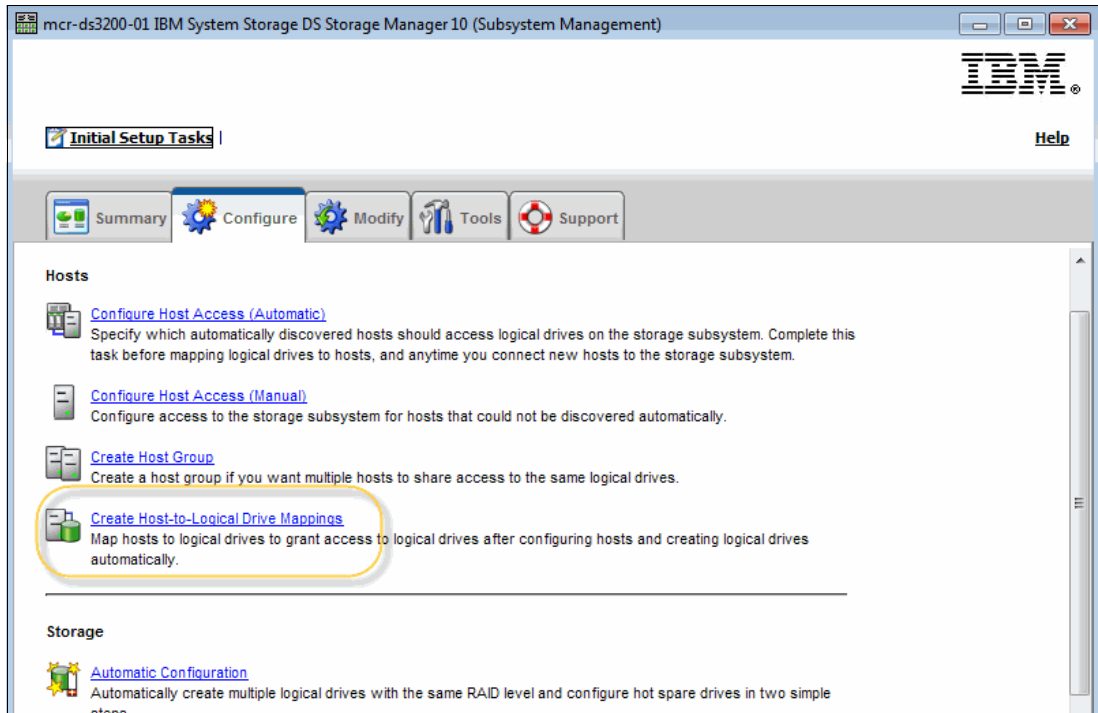

Figure 6-37 Create host mappings: IBM DS3200
3. Click the **Configure** tab and select **Create Host-to-Logical Drive Mappings**, as shown in Figure 6-37.